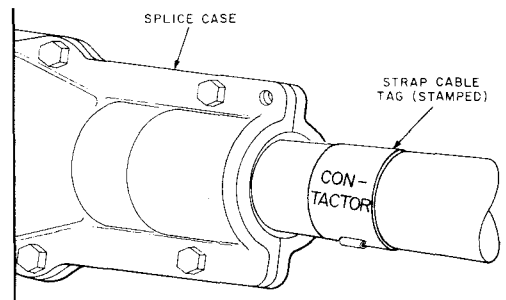

Fig. 4—Strap Cable Tag at Splice Containing N Pressure Contactor
- (1) Locate and identify the proper pair of conductors within the splice which are to be used for the alarm facility.
- (2) Strip 1/4-inch insulation from each alarm pair conductor and terminate at the alarm terminals located on the contactor.
(3) Wrap the contactor with muslin and place it within the splice bundle in a manner similar to that used for splice-type loading (Section 643-640-201). Add the required quantity of *C desiccant*, loose desiccant ***must not*** be used at a splice containing a contactor.
(4) Wrap down the splice bundle in accordance with Section 632-490-200. Close the splice opening and flash test the closure.
5.04 To identify splices containing contactors, place a strap cable tag worded "CONTACTOR" around the cable adjacent to the splice as shown in Fig. 4. In addition, where buried or underground cable routes are marked with aboveground markers, place a second tag on the nearest marker.